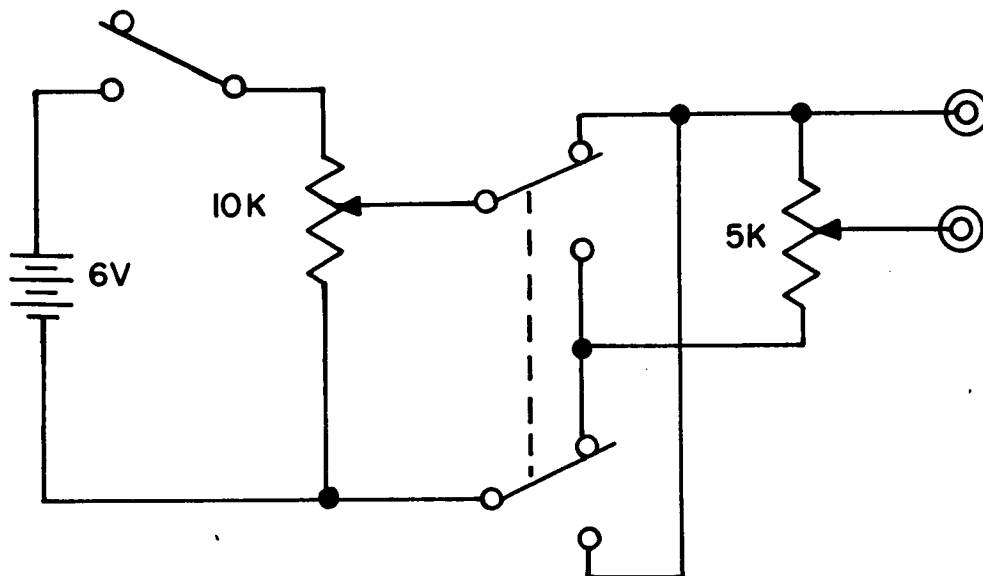

Figure 107. Reactance tube linearity test set, schematic diagram.
Reactance tube linearity test set (fig. 107)
- g. Connect the reactance tube linearity test set (fig. 107) from test point E130 (fig. 87) to ground.